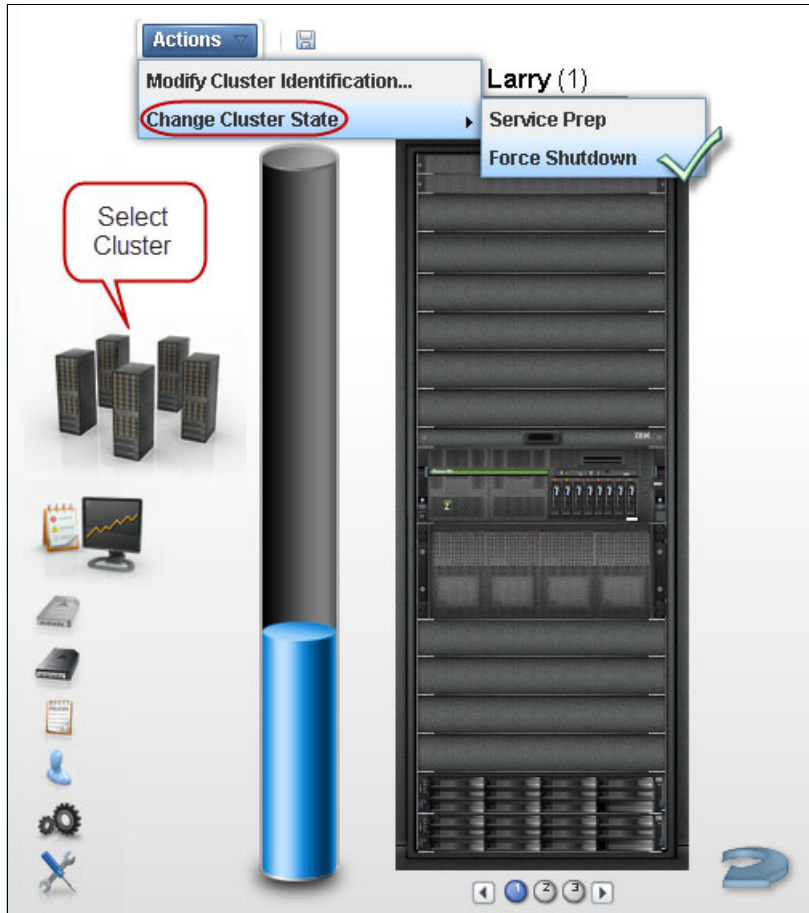
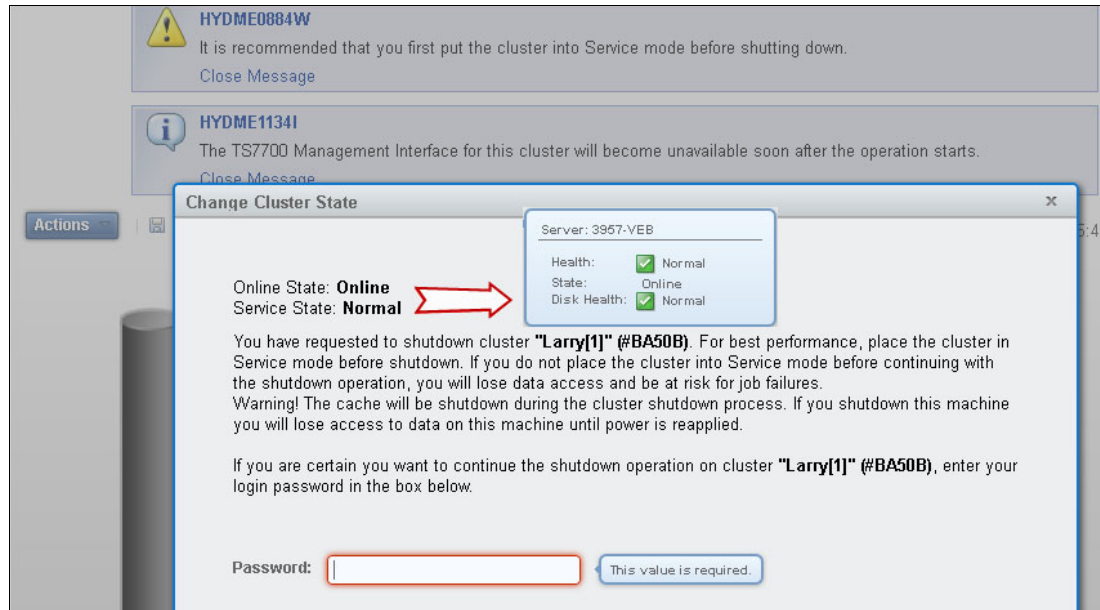

Figure 9-24 MI Cluster: Forcing a cluster to shutdown
Figure 9-25 Warning message and Cluster Status during forced shutdown
Use the window that is shown in Figure 9-24 to shut down remotely a TS7700 cluster for a planned power outage or in an emergency.
If **Shutdown** is selected from the action menu for a cluster that is still online, as shown at the top of Figure 9-24 on page 348, a message alerts the user to put the cluster in service mode first before shutting down, as shown in Figure 9-25.
In Figure 9-25, the Online State and Service State fields in the message show the operational status of the TS7700 and appear over the button that is used to force its shutdown. The lower-right corner of the picture shows the cluster status that is reported by the message.
- Clicking **Shutdown** in Normal mode. If **Shutdown** is selected while in normal mode, a warning message suggesting that you set the cluster to Service mode before proceeding opens, as shown in Figure 9-25 on page 349. To place the cluster in service mode, select **Modify Service Mode**. To continue with the force shutdown operation, provide the password and click **Force Shutdown**. To abandon the shutdown operation, click **Cancel**.